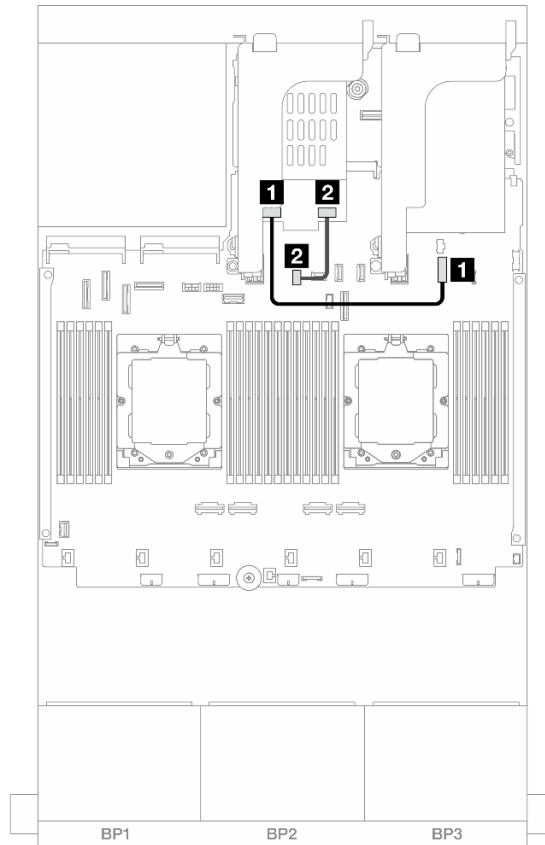

Figure 247. NVMe cable routing
- Figure 247 “NVMe cable routing” on page 247